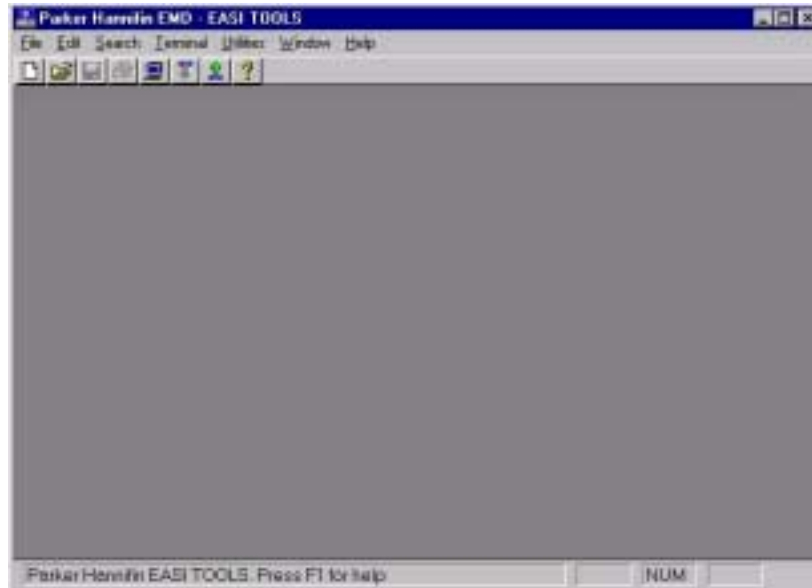

Figure 2.37 Easi Tools Main Toolbar
2. The **Easi Tools** main toolbar is illustrated in Figure 2.37: